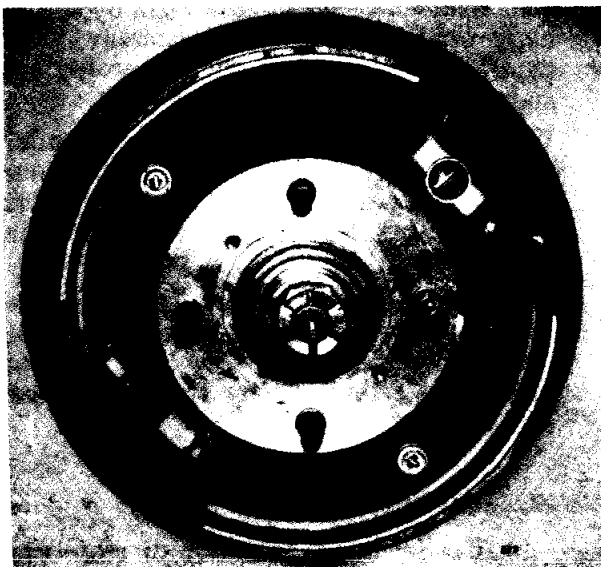

Fig. 3
3. REAR BRAKES (Figs. 3 and 4)